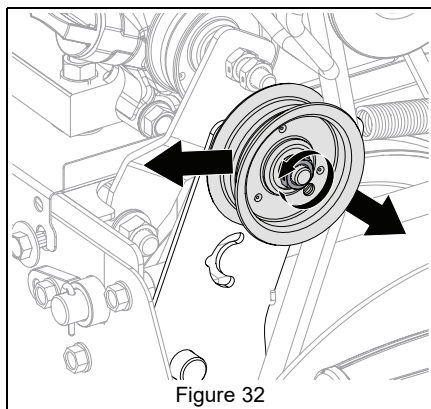

Figure 32
See Figure 32.
- If there is less than 1.6 mm (1/16") gap, loosen idler adjustment nut and move idler away from belt or pulley. Position idler to achieve a 1.6 mm (1/16") minimum brake pad gap and a 12.7 mm – 22.2 mm (1/2" – 7/8") gap between the plastic roller and the frame. See Figure 32.